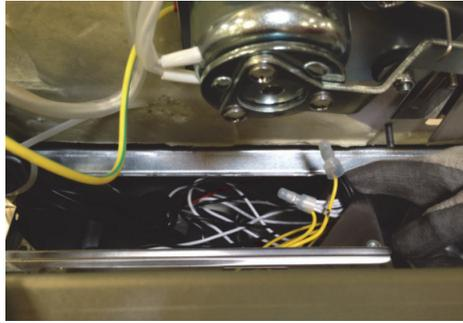

Figure 8.
3. Locate the yellow wire that is spliced with the white wire, 3" away from the existing wire nut, cut & splice the yellow wire with the white wire of the power harness, as shown in Figure 8.
4. Locate the yellow wire that is spliced with the black wire, 3" away from the existing wire nut, cut & splice the yellow wire with the black wire of the power harness, as shown in Figure 8.
NOTE: Connect 2-pin connector on power harness to 2-pin connector on control board. Tie the wires using cable ties and tuck back in away from the sharp metal edges, see Figure 8.